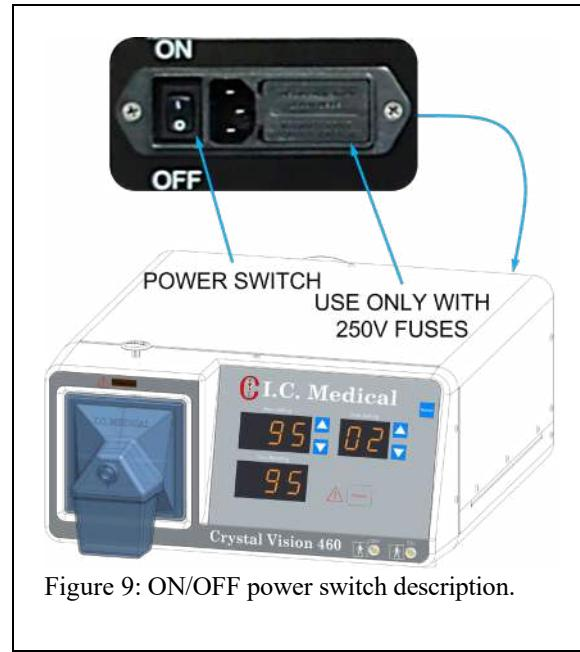

Figure 9: ON/OFF power switch description.
1. The CRYSTAL VISION®. power switch (Figure 9) is located on the back panel, next to the power cord. Place this in the "ON" [I] position. When unit is turned ON, the FLOW SET, indicators and display for TIME and FLOW should illuminate.